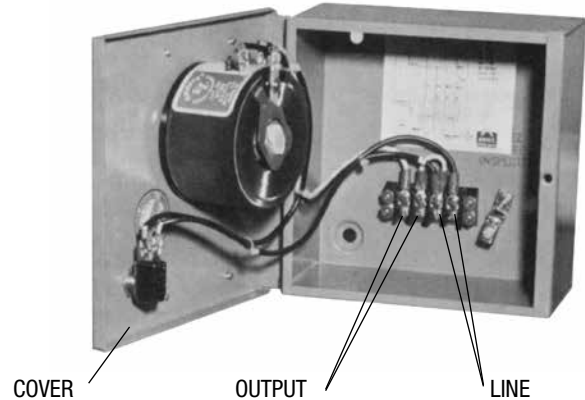

FIGURE 3
1. Check the supply voltage and frequency and make certain that they are the same as those shown on the nameplate of the Feeder and Control (see Figure 3).